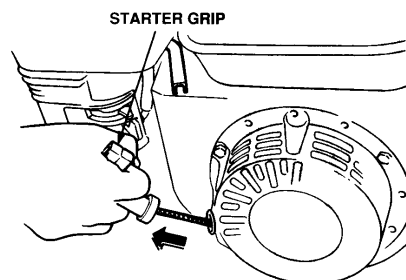

Figure 12. Starter Grip
6. Grasp the starter grip (See Figure 12) and slowly pull it out. The resistance becomes the hardest at a certain position, corresponding to the compression point. Pull the starter grip briskly and smoothly for starting.